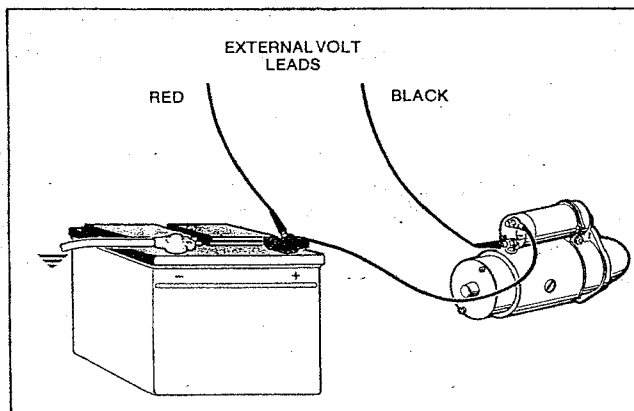

FIGURE 5. External volt lead connections where starter solenoid is on the starter.
- B. Connect test leads as shown in Figures 5 and 6 for type of circuit being tested.